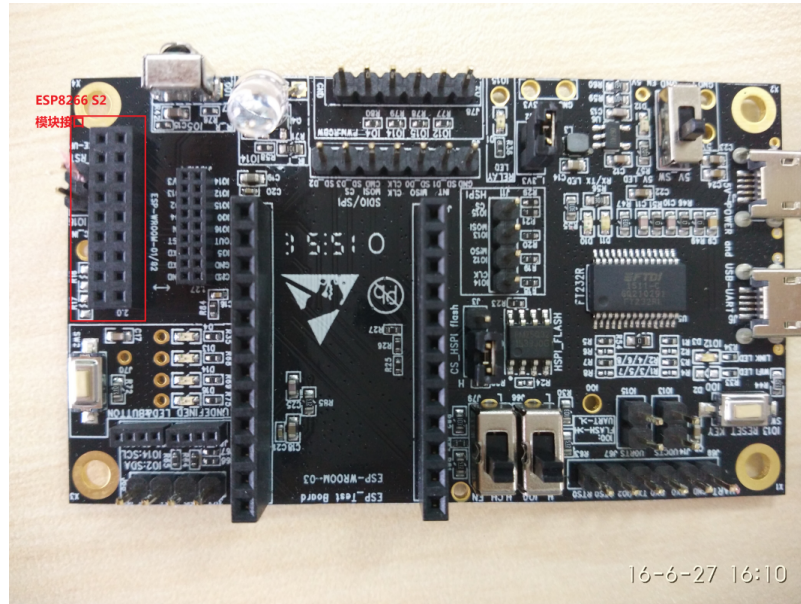

Figure 1-1: ESP-Launcher Backplane
3. Connect ESP-WROOM-S2 to the interface on ESP8266 backplane. The location of the interface's location is marked on the upper left side of Figure 1-1 for your reference.